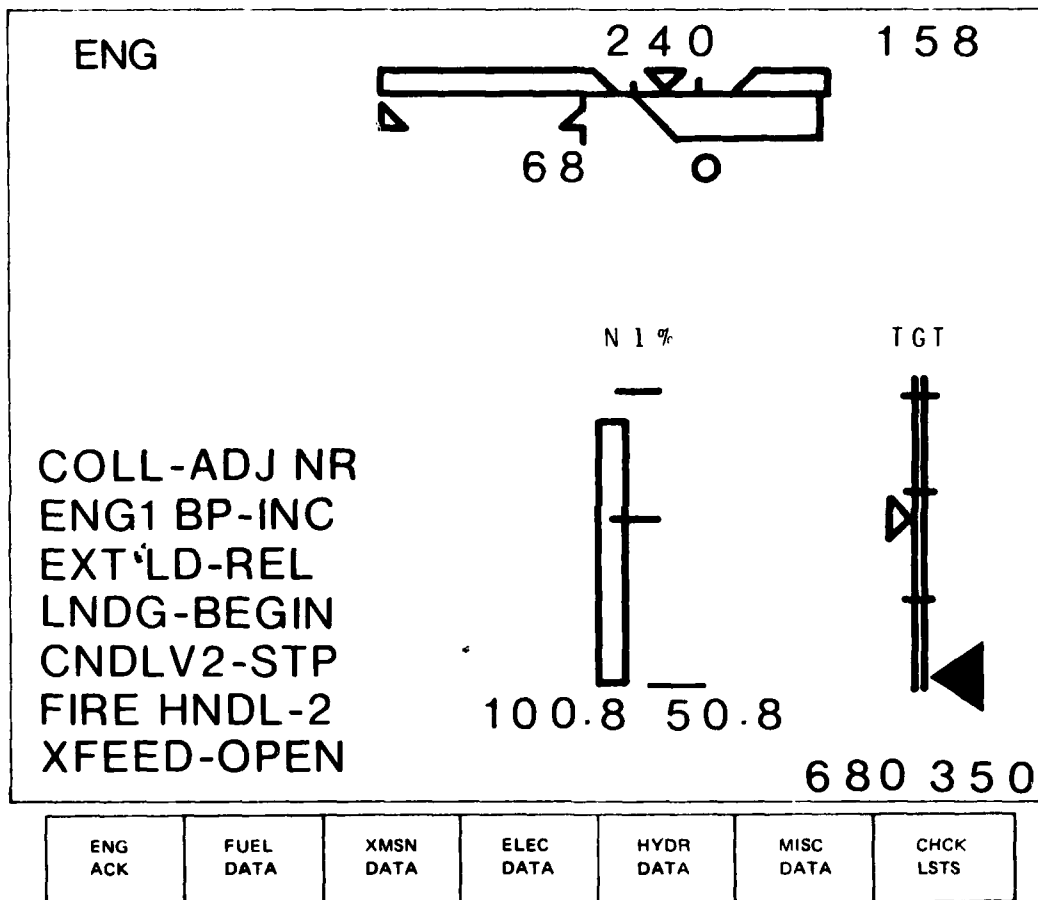
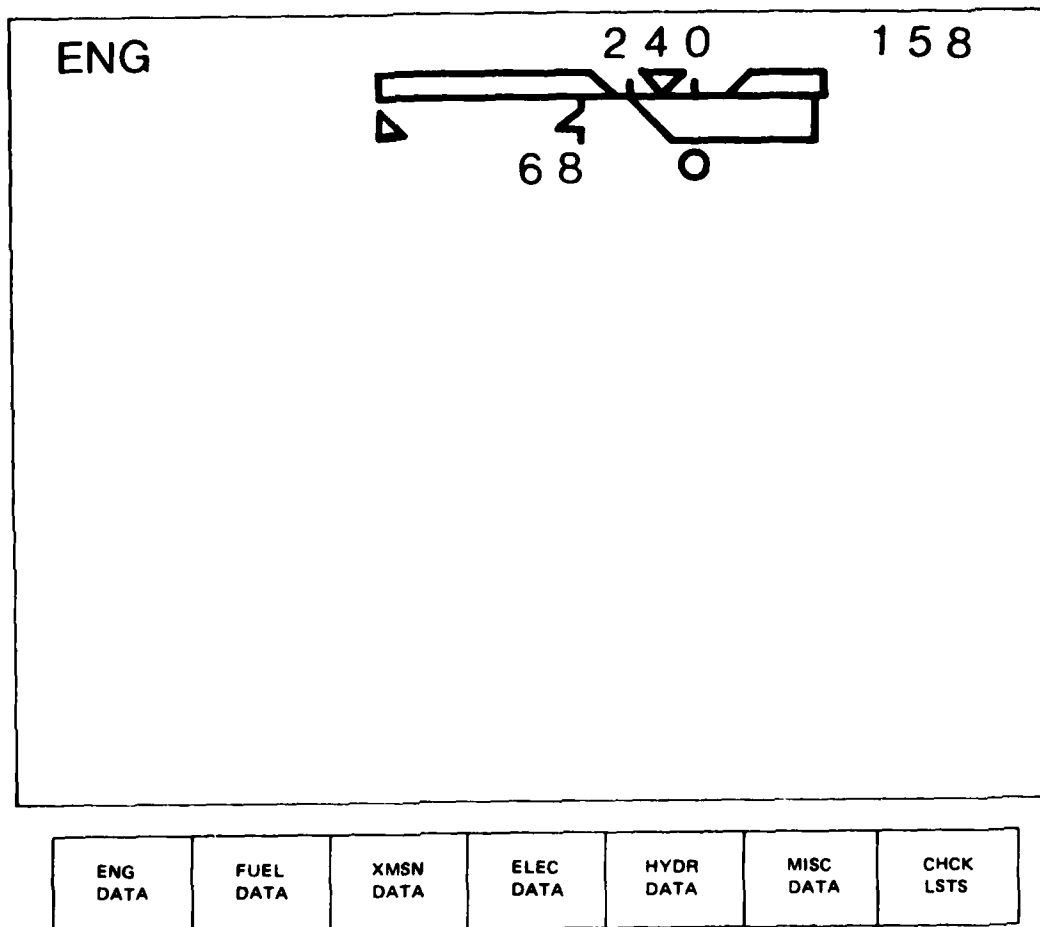

Figure 5. Sample Display Format - Warning Acknowledged, Checklist Displayed
Figure 6. Sample Display Format - Fault Acknowledged, Checklist Completed
- c) The pilot must manually acknowledge that he has reviewed the faults in the displayed subsystem, using a cyclic mounted acknowledge switch or the MLDS labeled "ENG ACK" or "WARN ACK" as described in Section 3.2.1.4. Actuation of either of these switches acknowledges the highest priority Warning and results in the appropriate emergency procedures checklist being placed on the display together with or instead of the subsystem data. Figure 5 illustrates this transition for the example started in Figures 2 and 3. This first actuation of the acknowledge switch also extinguishes the Master Caution Light.
- d) The pilot notifies EMMADS of checklist completion using the acknowledge function. In the example used in Figure 5, no other faults existed and the failed engine checklist has been acknowledged so the display format would change to that shown in Figure 6. Note that the word ENG is now steadily illuminated in the upper left hand corner, indicating that the engine fault, although acknowledged, still exists.